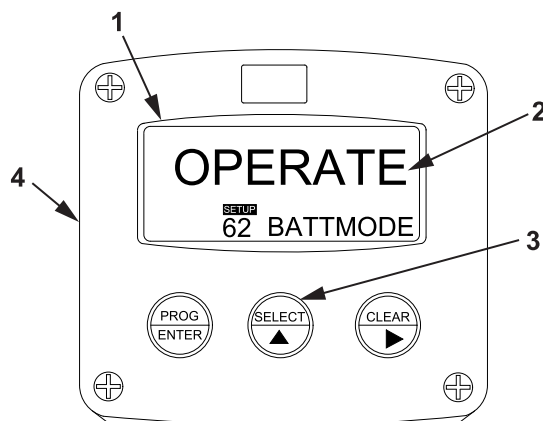

Figure 31. OPERATE Display.
- d. Verify that OPERATE (Figure 31, Item 2) appears on the display screen (Figure 31, Item 1). If shelf mode is desired, perform the procedure to program tank volume meter monitor and select SHELF.
- e. Press the SELECT key (Figure 31, Item 3) on the tank volume meter monitor (Figure 31, Item 4).